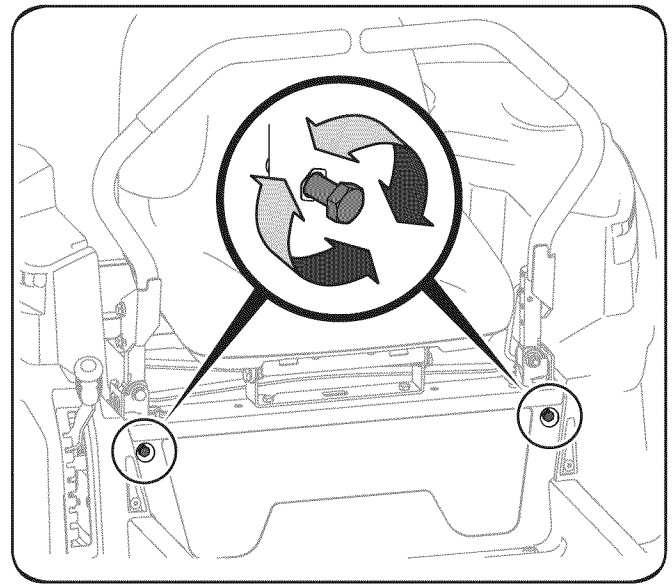

Figure 30
2. Locate the drive control lever stop adjustment bolts on the front of the seat frame. See Figure 30.